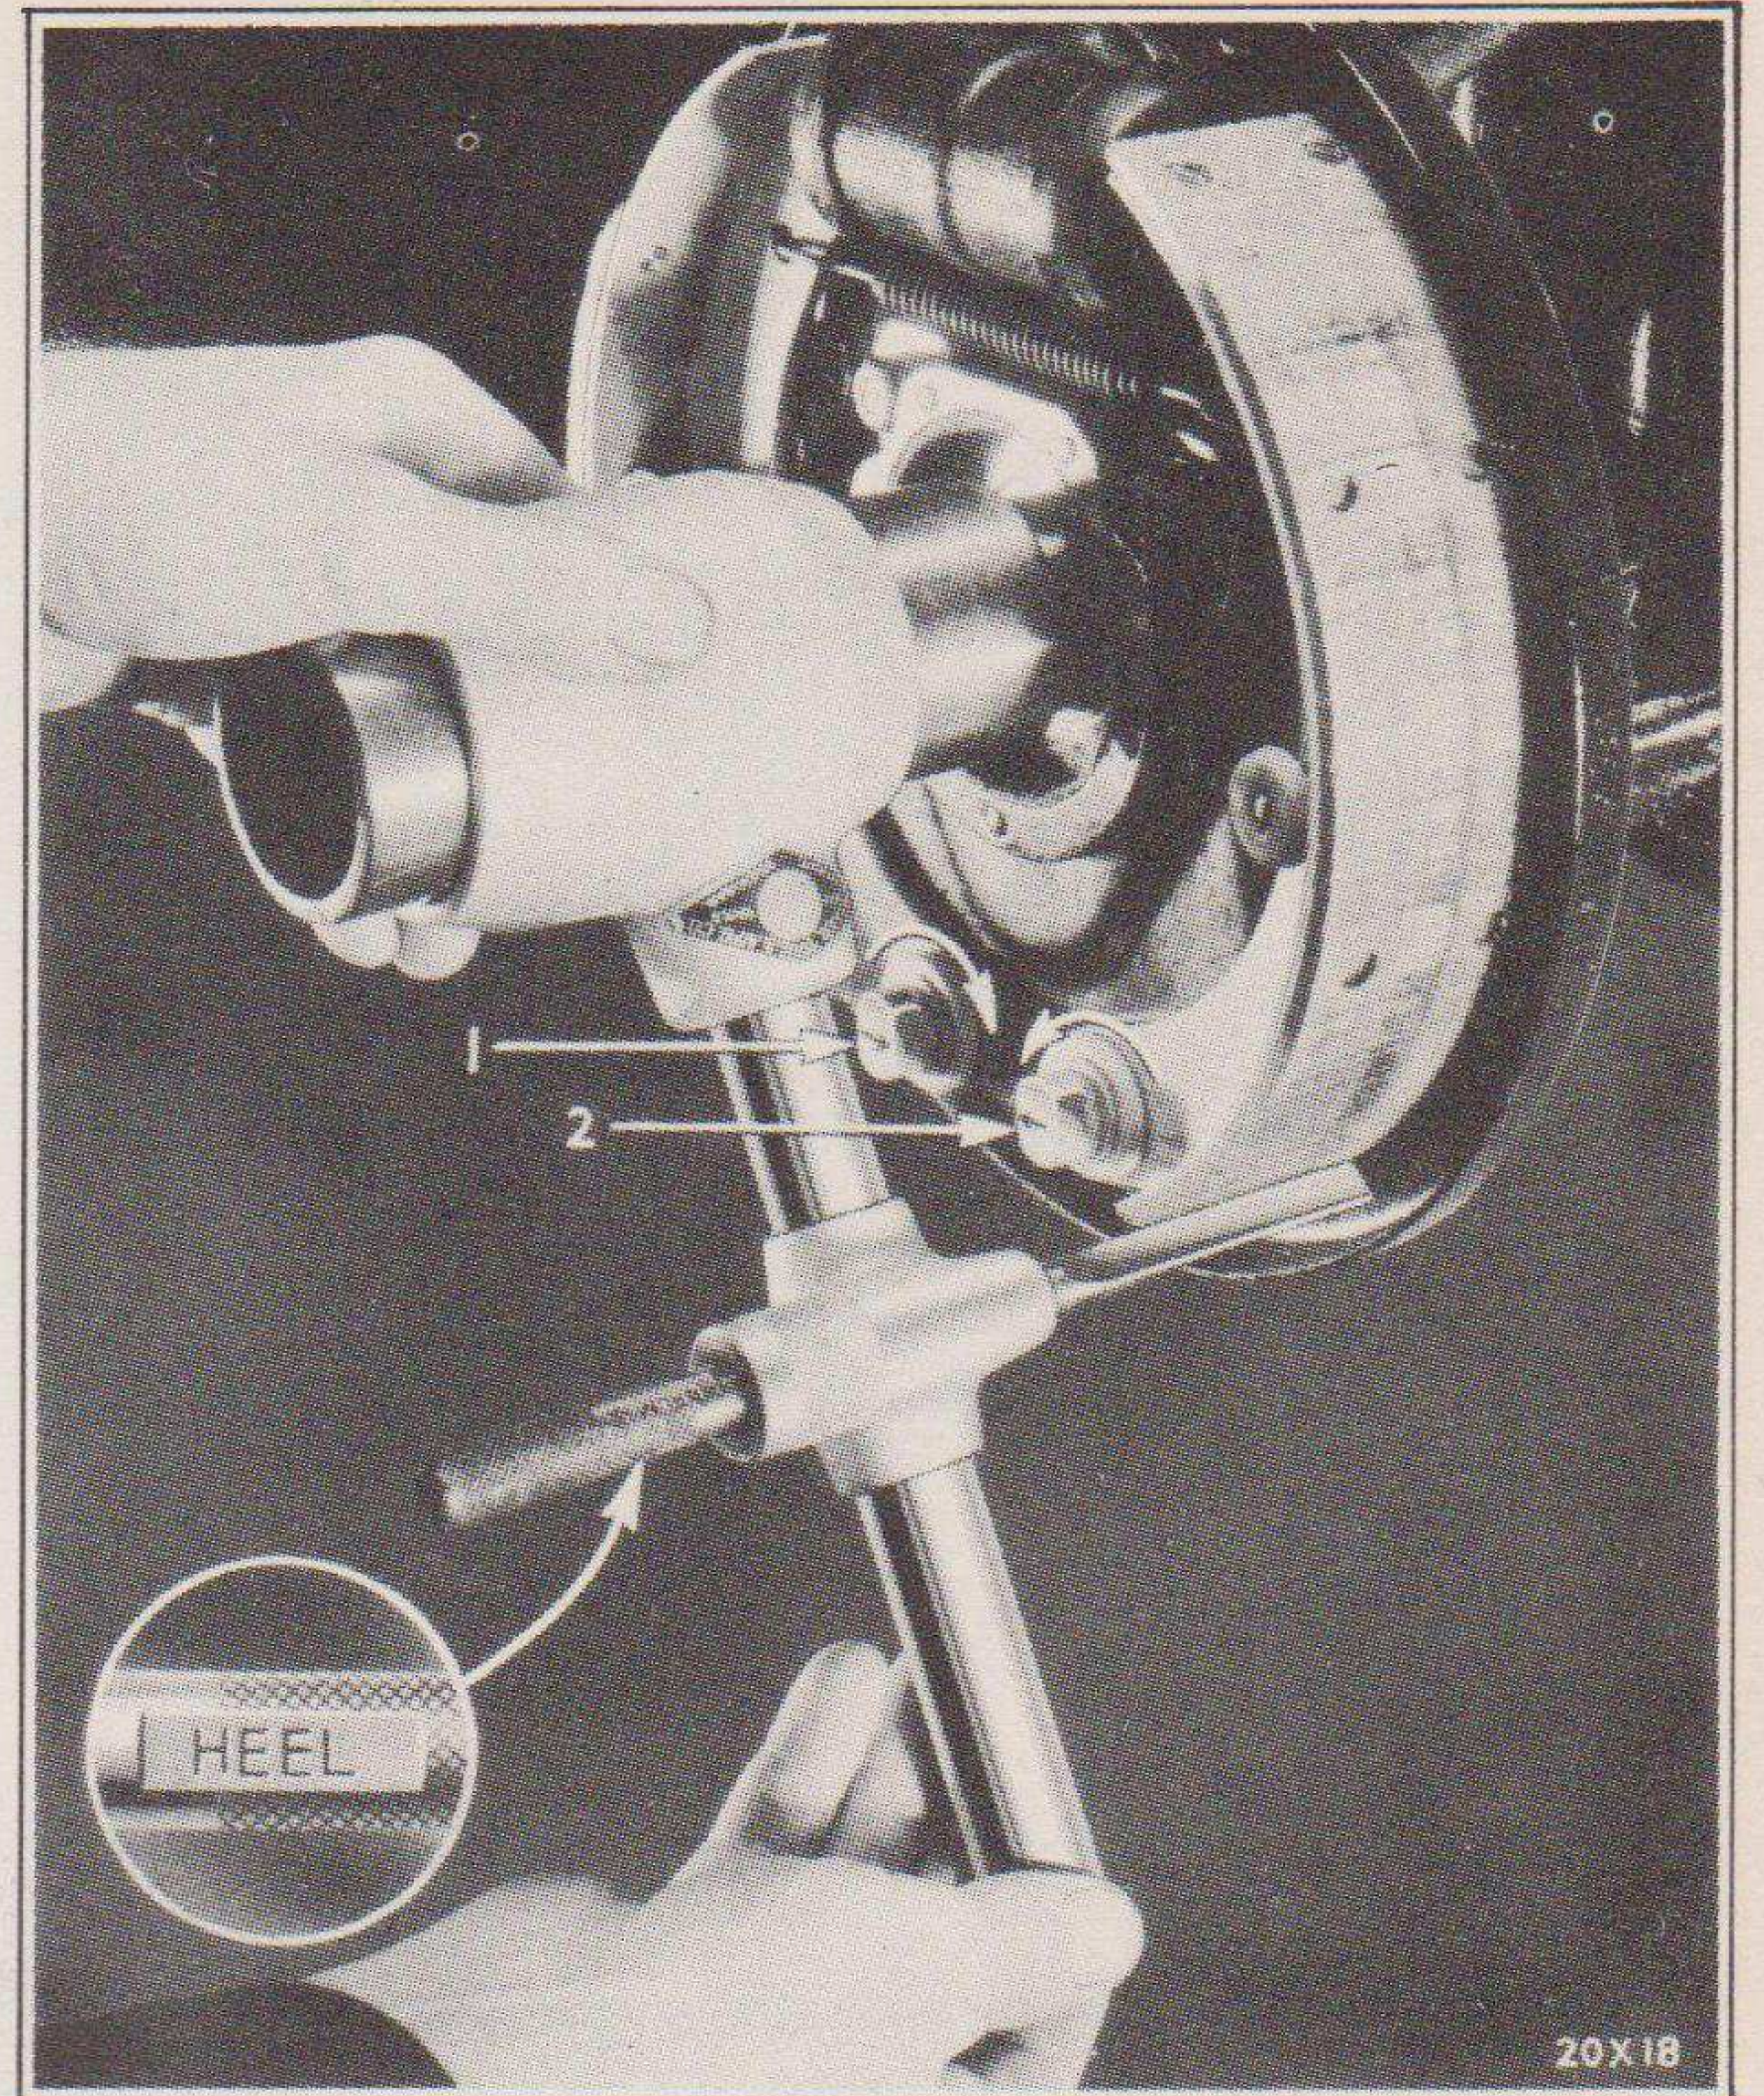

Fig. 75—Checking Brake Shoe Heel Adjustment
- (h) On the head of each anchor bolt an arrow is stamped to indicate the position of the brake shoe anchor bolt cam. If the arrows do not point toward each other, loosen the anchor bolt nut and turn the anchor bolts until they do. *These arrows must point toward each other before starting to adjust the brake shoes.* See Fig. 75. The anchor bolts must be turned, from that position, in the correct directions in order to *decrease* the clearance between the brake shoe lining and the drum at the "heels" of the brake shoes. The correct procedure is to turn the right hand anchor bolt of any pair *counter-clockwise* and the left hand anchor bolt of the same pair *clockwise*, to
tighten the brakes. See Fig. 75. When turning the anchor bolts as directed, the "heels" of the brake shoes will move downward and outward.
- (i) If necessary, turn the anchor bolts until the "heels" of the brake shoes just contact the "heel" adjusting finger of the brake shoe gauge arbor as shown in Fig. 75. (The correct .006" "heel" clearance is machined into the brake shoe gauge arbor.)
If the brakes are relined or the drums are replaced or resurfaced the anchor bolts should be turned (before drums are installed) so that the arrows on the heads of any pair of anchor bolts point toward each other. See Fig. 75. This is important as the arrows indicate the correct positions of the anchor bolt cams for proper movement of the shoes when the brakes are applied.